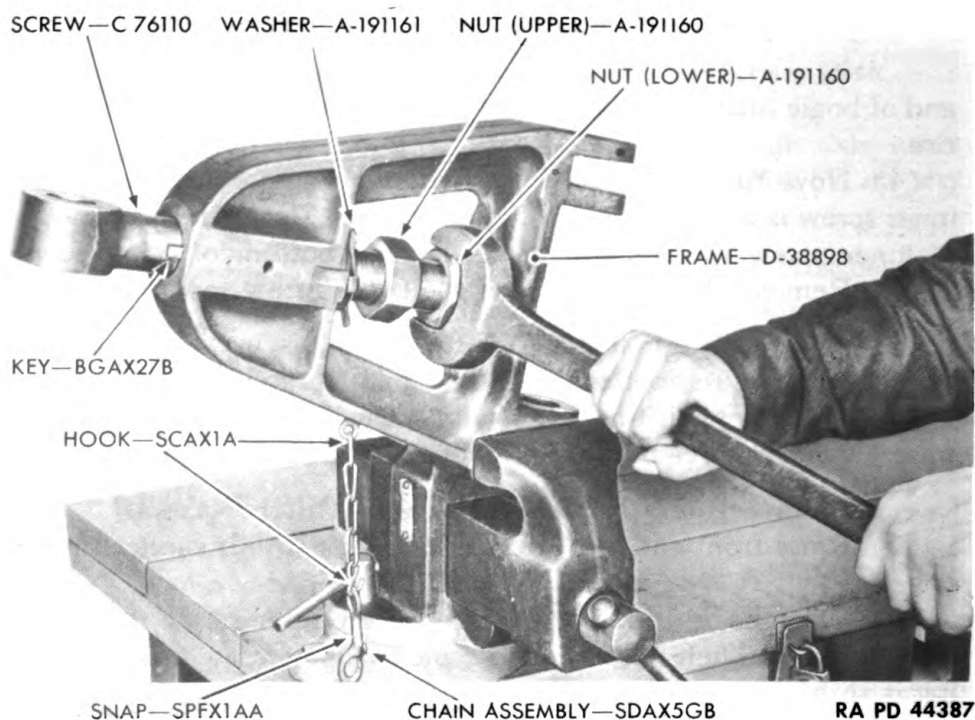

Figure 246—Removing Cradle Lock Screw
(1) Place cradle lock assembly in a vise (fig. 246). Straighten lugs on two lock washers A191161.
(2) Remove two nuts A191160 and washers A191161 from screw C76110, and remove screw from frame D38898 (fig. 246).
(3) To remove chain assembly SDAX5GB, open hook SCAX1A nearest to frame D38898.